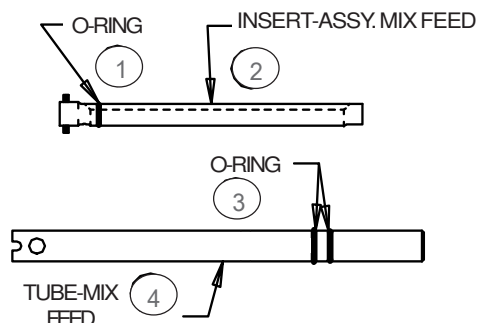

Figure 7-4
6. Remove the mix feed tube (figure 7-4) and mix float from the hopper. Remove insert (2) from mix feed tube.